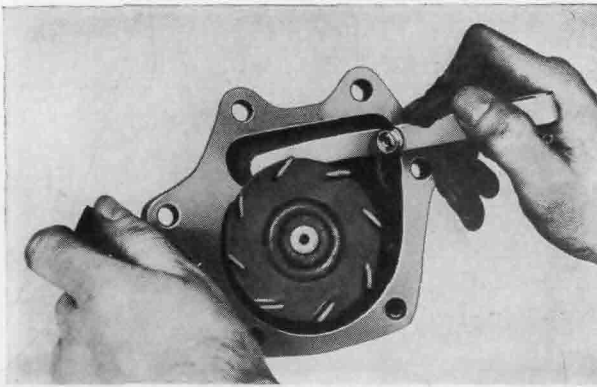

FIG. 14-17. Measuring clearance between face of rotor and pump body. (Chevrolet Motor Division of General Motors Corporation)
- i. Check clearance between face of rotor and pump body (Fig. 14-17). It should be 0.010 to 0.035 inch.